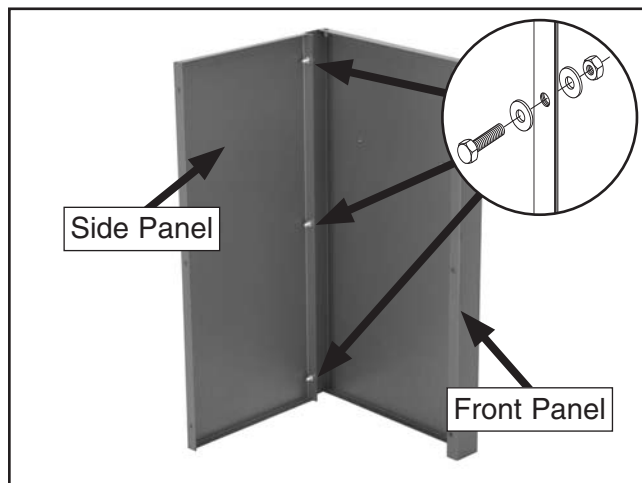

Figure 10. Front and side panels.
1. Attach the front panel to one of the side panels with three M8-1.25 x 20 hex bolts, nuts, and six flat washers, as shown in **Figure 10**.